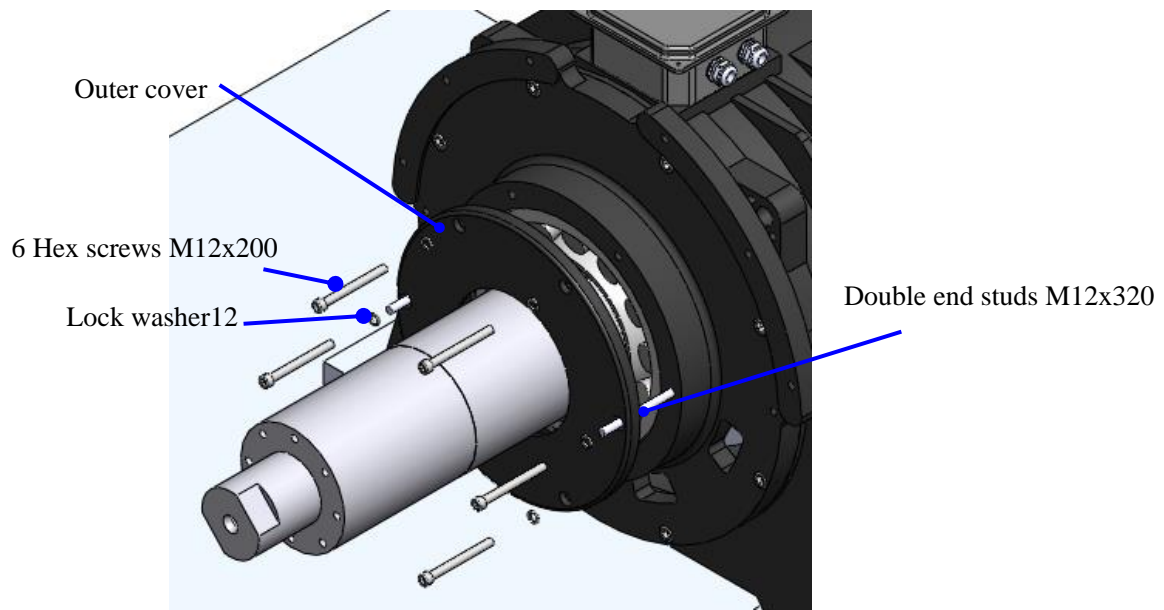

Figure 153: Attach Outer cover
10. Install it on the Front cover through the double end studs; tighten hex screws M12x200 with lock washer12. See Figure 153.